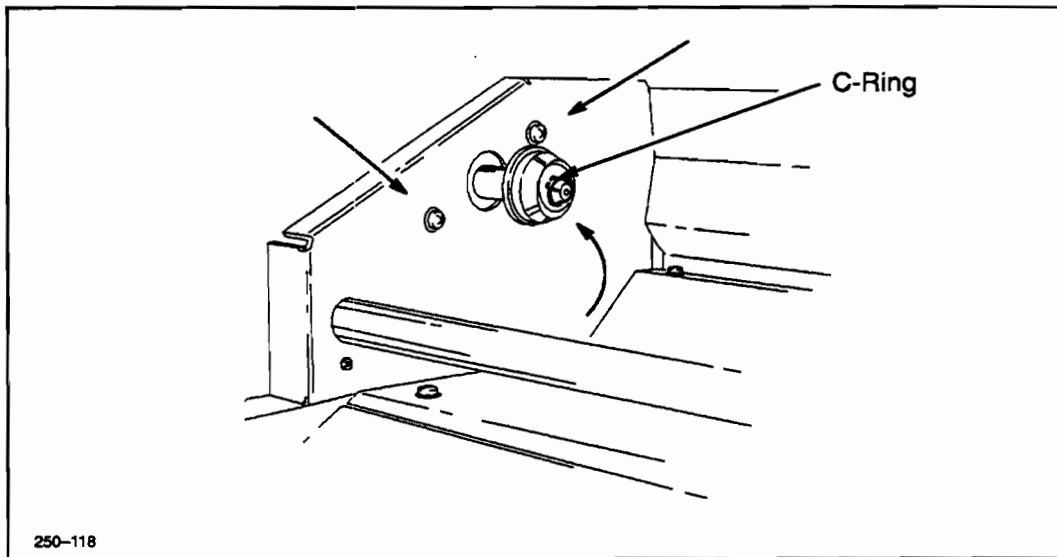

Figure 6-78. Take-Up Reel Hub (Left)
1. Switch the plotter OFF (O)
5. Remove the "C" ring as shown in Figure 6-78.
7. Remove the three (3) screws securing the hub to the plotter. See Figure 6-78.